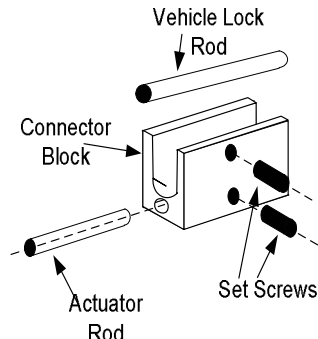
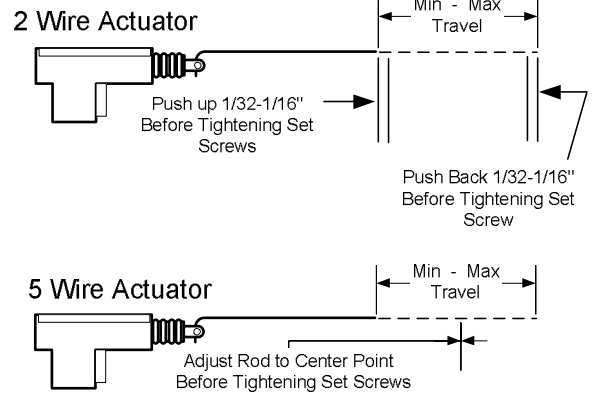

Fig 3. Rod and Connector Block Assembly
Fig 4 STROKE ADJUSTMENT
4. Insert the vehicle lock rod and actuator rod into the supplied connector block as shown in Fig. 3 & Fig. 4. After ensuring there is adequate allowance for the movement of the connector block assembly, tighten the set screws.
6. For each front door (5-wire) actuator, make sure you have adjusted the stroke of the actuator and vehicle lock rod to the middle point of its full stroke before tightening the set screws in the connecting block which connects the steel rod and vehicle's lock rod. See Fig 4.
7. For the rear (2-wire) door actuators, make sure you have adjusted the stroke of each actuator to max. or min. stroke position, and push it in or pull it out respectively about 1/16" before tightening the set screws in the connecting block as shown in Fig 4. Then push and pull the door lock lever/knob to assure that the mechanism is working well. If not then readjust.